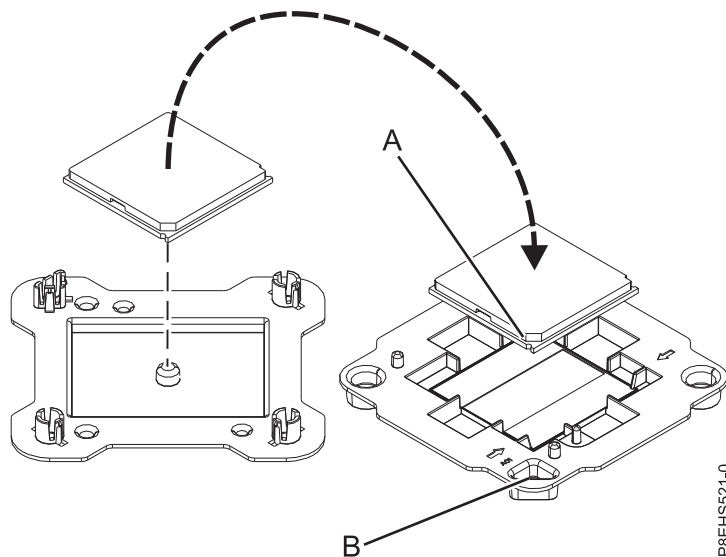

Figure 112. Placing the system processor module into the packaging
13. Lightly grip the system processor module that you replaced by the edges and lift it off of the packaging cover. Align the beveled corner of the module (A) to the corner of the packaging with triangle (B) and place it in the packaging, as shown in Figure 112. Close the packaging cover.